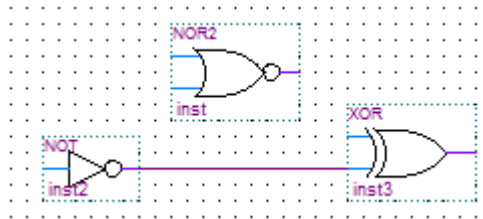

Figure 1.1: Block Editor after step I.C.2.
2. Click the mouse and drag the pointer to the input of the XOR gate. This action creates a wire, as shown in Figure 1.1.